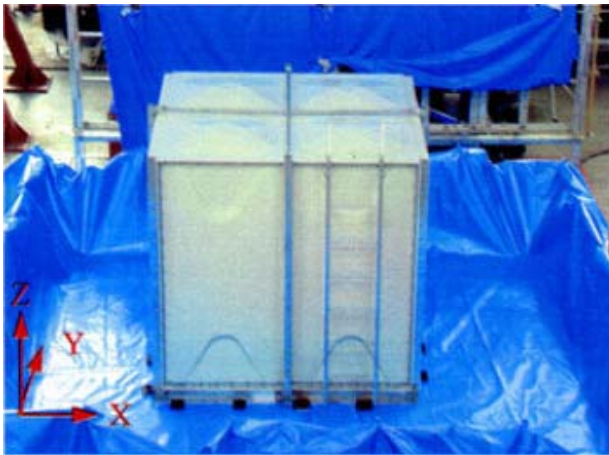

Figure 1: Appearance overview of the assembly type water storage tank
- 1 Dimensions of assembly type water storage tank: 2m x 2m x 2m, weight: 720kg Capacity of water storage tank: approximately 6.5 tons at 80% full (Figure 1).